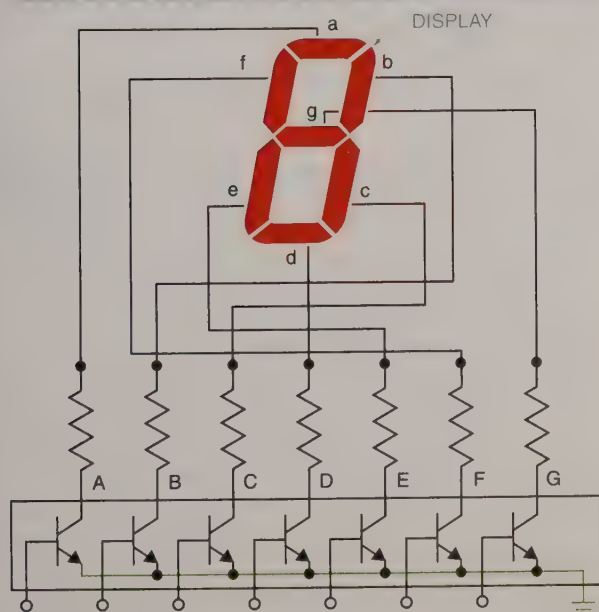

Figure 23-3. When various combinations of transistors are switched on and off, different numbers appear on a seven-segment display.
Seven-Segment Displays. By switching various combinations of transistors on or off, different numbers can be created on a seven-segment display. See Figure 23-3. For example, if all transistors (A through G) are switched on, an “8” should appear on the display. If all transistors, except E and D, are switched on, a “9” should appear. There is typically circuitry in addition to the seven-segment transistor devices to help decode the proper signals for the display. When all circuitry is present, it is called a seven-segment decoder/driver display or readout device.
3. In Figure 23-3, which type of transistors are used, NPN or PNP?